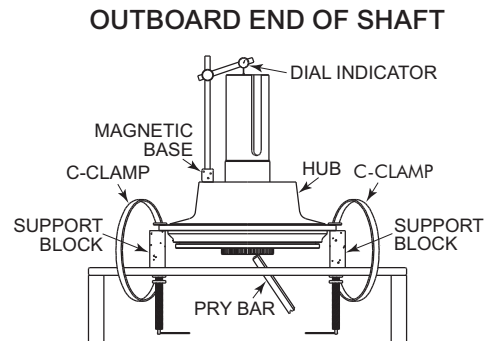

Figure 6.4.1 Setting Axial Bearing Clearance
19. Support hub and affix to work table with the shaft not touching the table; reference Figure 6.4.1.
1. Support housing to allow the shaft to rotate freely; reference Figure 6.4.1.
2. Affix the hub to the support table with C-Clamps or bolting to table; reference Figure 6.4.1.
5. Affix the magnetic base of the dial indicator to a flat area of the housing; reference Figure 6.4.1.
8. With a pry bar, push the inboard end of the shaft up; reference Figure 6.4.1.